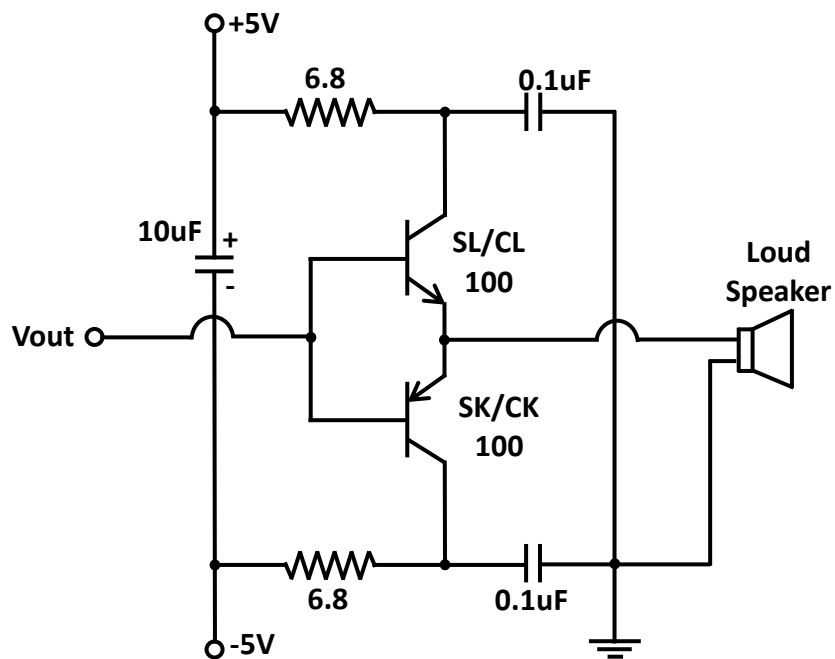

Fig. 5.3: Push – Pull Power Amplifier
3. Connect the Push-Pull complementary Amplifier circuit as shown in Fig. 5.3.